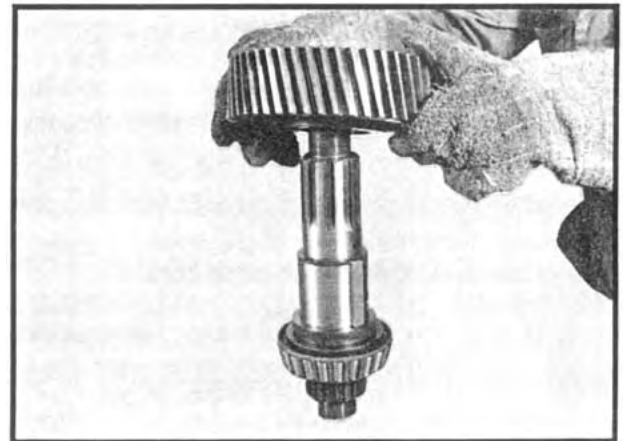

Fig 43
3. Heat and install the gear on the other end of the shaft. See Figure 43. Slip the spacer washer against the gear. Heat and install the remaining bearing cone assembly on the shaft against the washer. Slide the clutch gear into place against the other cone and install the clutch gear retaining locknut. For convenience, the nut may be torqued after the shaft assembly has been installed in the transfer case housing.